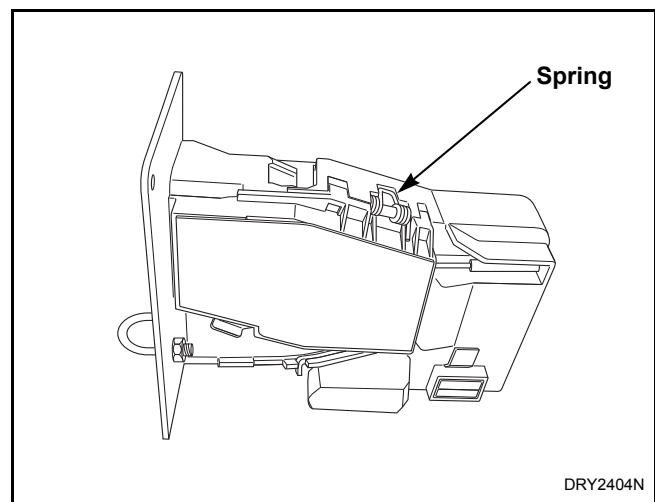

Figure 25
**Coin Drops with New-Style Spring (refer to Figure 25):**